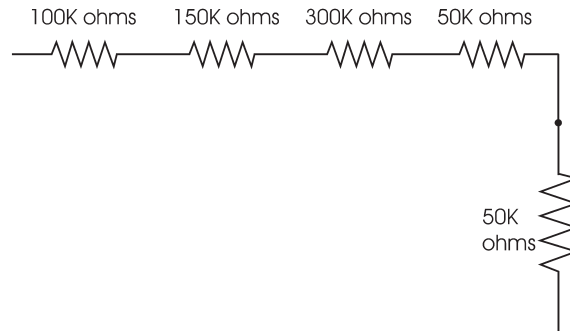

Figure 4-11
- Step 2: Replace the parallel resistor network with a single resistor of the same value and redraw the network, as shown in Figure 4-11.